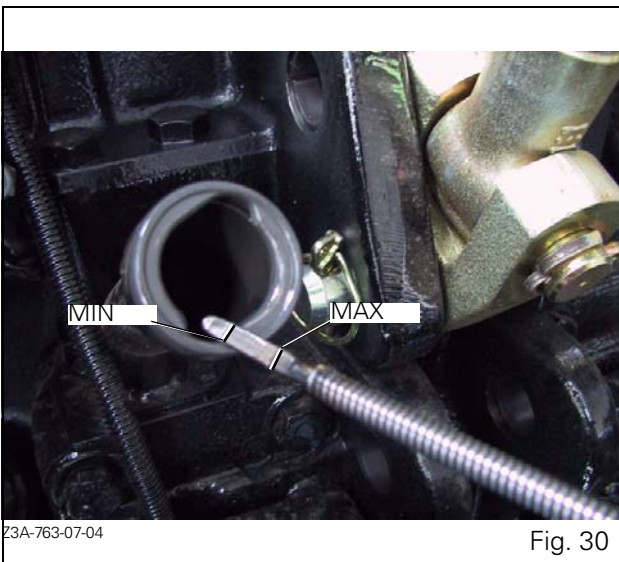

Fig. 30
3. Refit the drain plugs, then refill the transmission to the correct level (Fig. 30) with an approved oil.